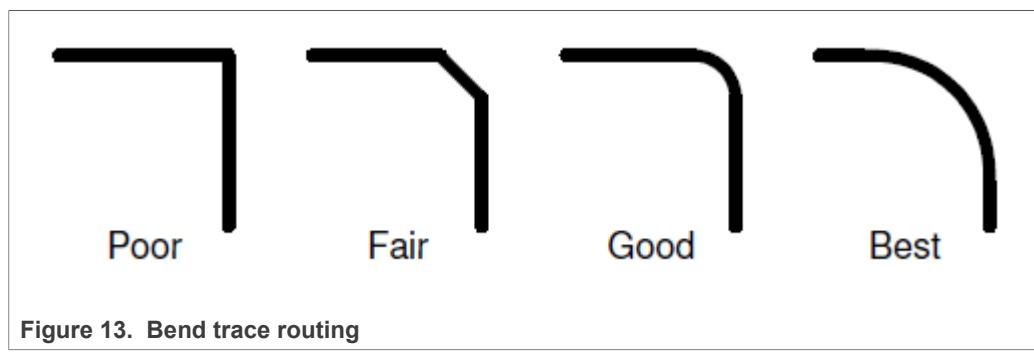

Figure 13. Bend trace routing
- The bend trace routing should be smooth with a large radius rather than of 90 degree with a sharp edge, as shown in Figure 13.